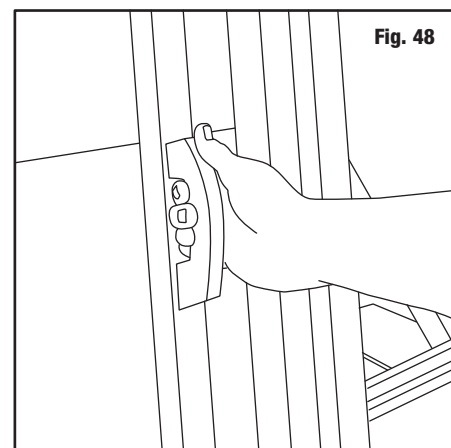

Fig. 48
5. Clamp board using material clamp (Fig. 48).